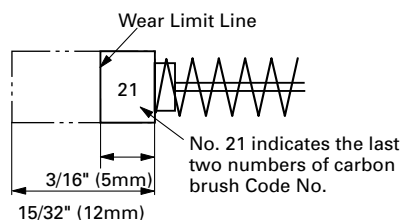
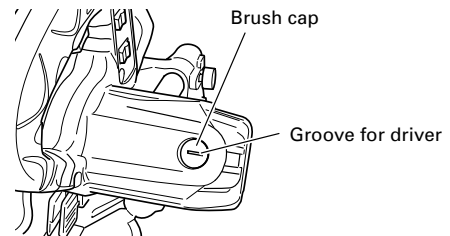

Fig. 48
Fig. 49
2. Inspecting the carbon brushes (Fig. 48 and Fig. 49)
Therefore, inspect the carbon brushes periodically and replace them when they have become worn to the wear limit line as shown in Fig. 48.
The carbon brushes can easily be removed after removal of the brush caps (see Fig. 49) with a slotted (minus) screwdriver.